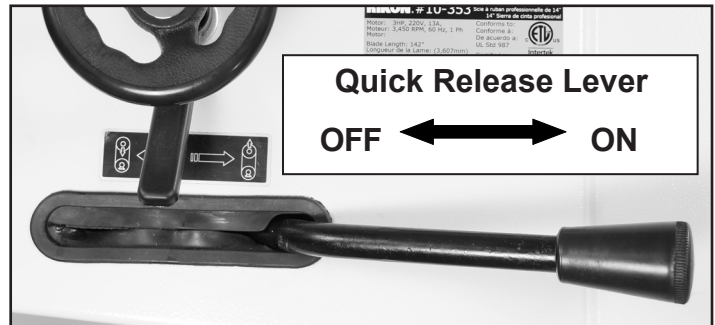

FIGURE 20
2. Release the blade tension by moving the quick release lever from the right to the left (OFF). Fig. 20.
7. Re-tension the new blade by moving the quick release lever back to the ON position, Fig. 20, and check the blade tracking. The blade should run in the center of the wheels. Refer to “Tracking the Saw Blade” on pages 13 and 14 for more details.